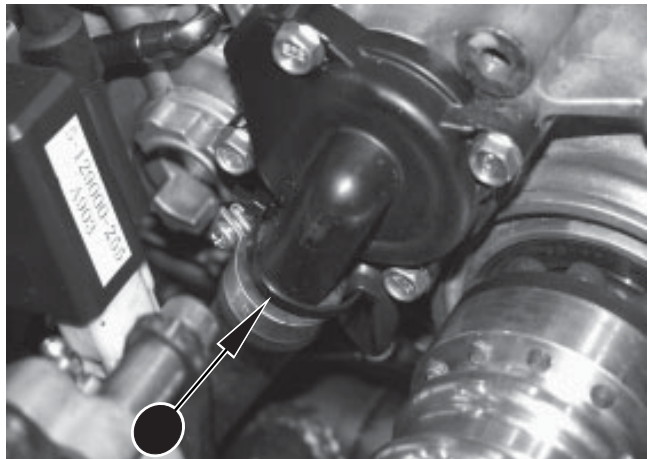

Fig. 7
- ⇒ Unscrew the radiator hose for the water pump from the connector component at the clamp shown in Fig. 7.